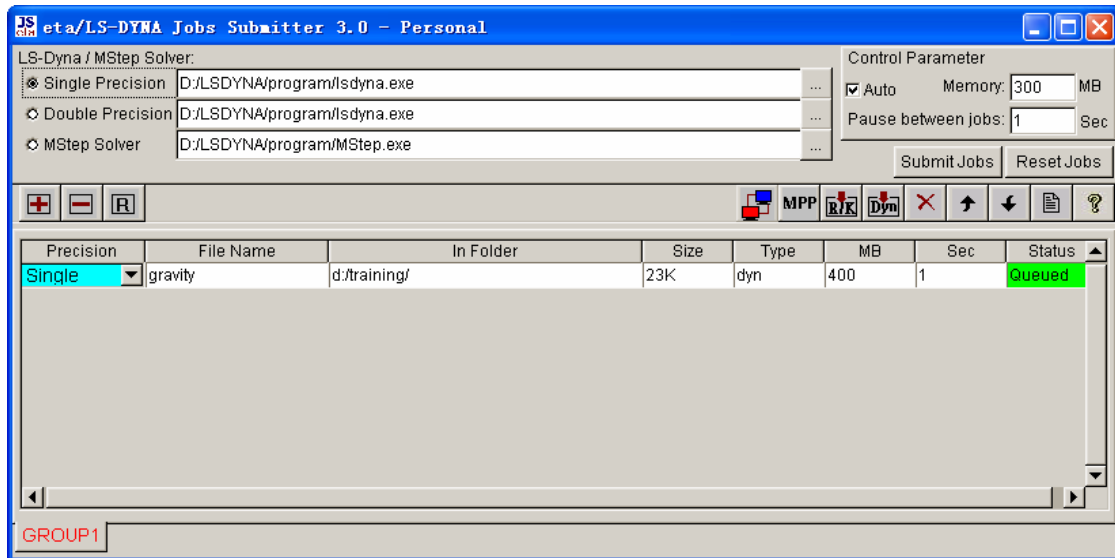
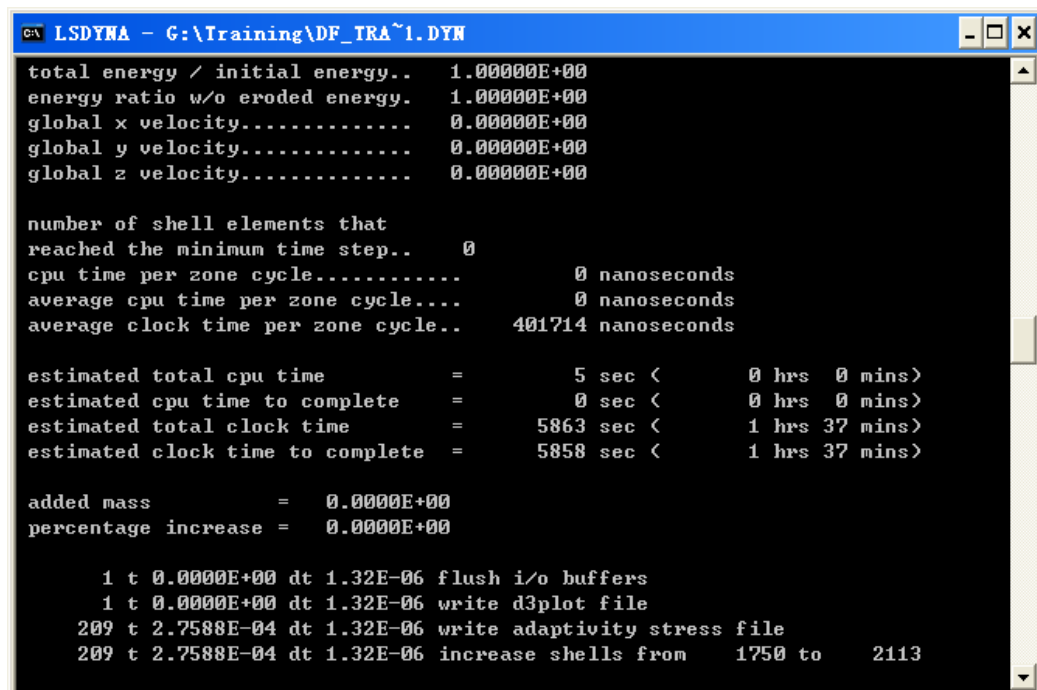

Figure 4.27 Submit job interface
Figure 4.28 LS-DYNA solver window
Submitter interface illustrated in Figure 4.27.
- Click **Submit Jobs** button, as shown in Figure 4.27 to activate the LS-DYNA solver for running the stamping simulation. The LS-DYNA window illustrated in Figure 4.28 is displayed and the simulation is in progress.